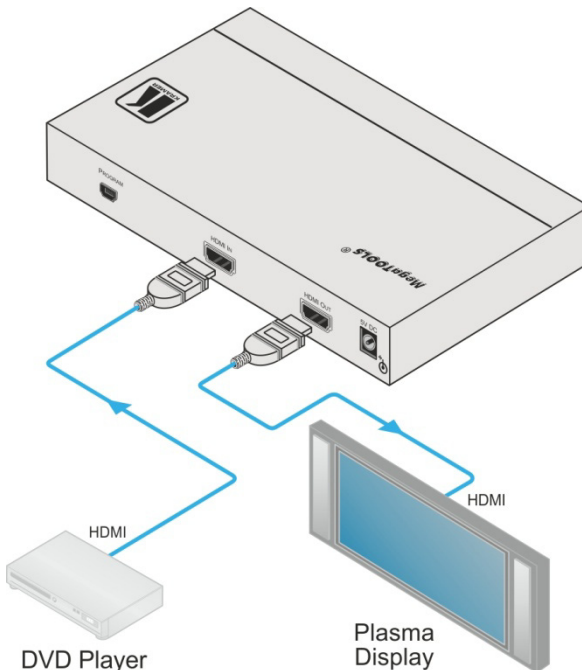

Figure 2: Connecting the VP-424
To connect the **VP-424**, as illustrated in the example in Figure 2, do the following:
3. Connect the 5V DC power adapter to the power socket and connect the adapter to the mains electricity (not shown in Figure 2).